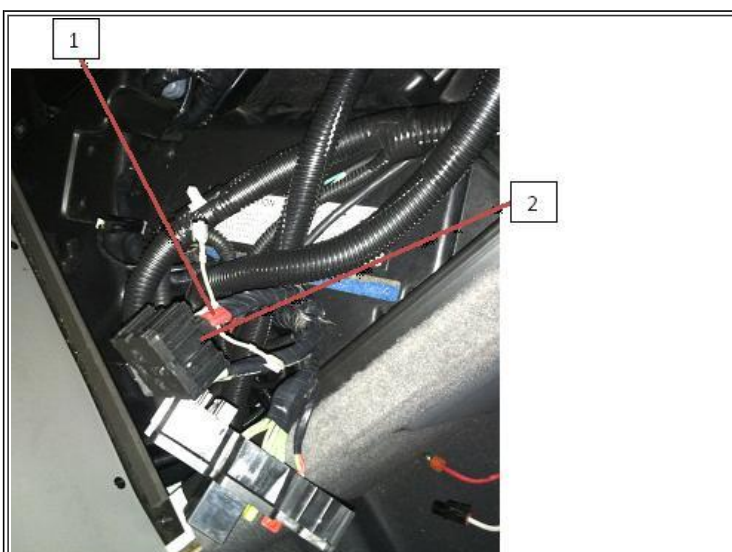

Figure 6: Control Center Assembly Harness.
17. Cut and discard remaining 3 wires (Figure 6, Item 1) from control center assembly harness (Figure 6, Item 2).